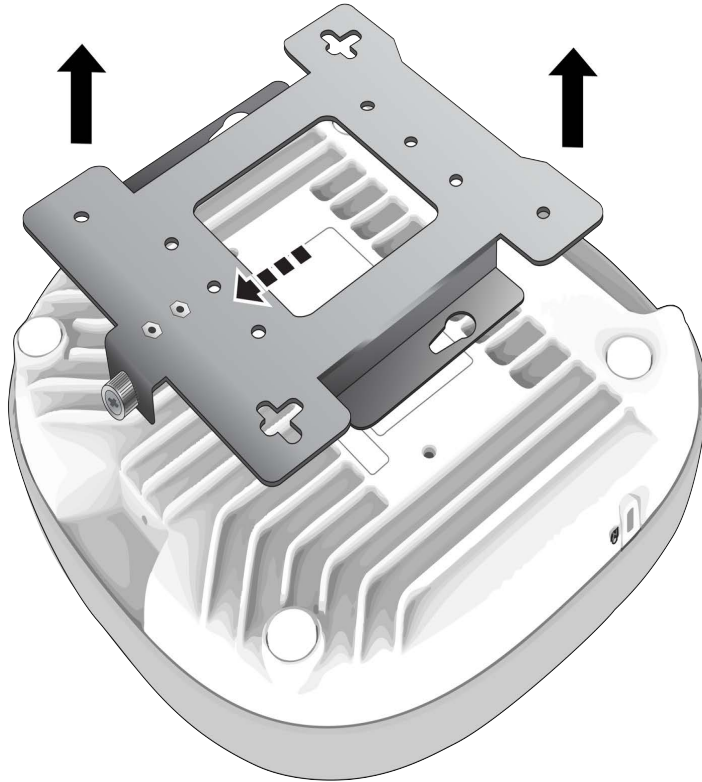

Figure 14. Removing the Mounting Bracket from the Access Point
4. Slide the mounting bracket forward and remove it from the access point. See Figure 14 on page 34.